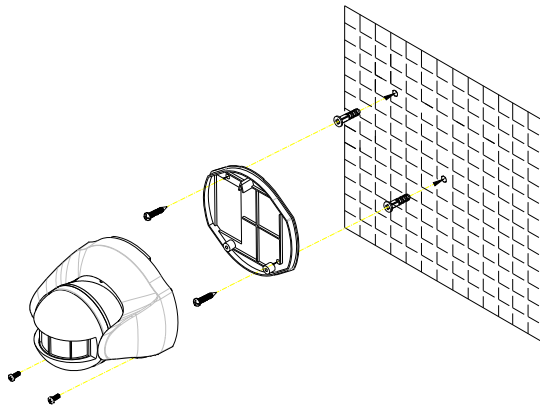

FIGURE 4
4. Hold the rear cover in position and mark the two mounting holes. Drill the holes, insert the plastic wall plugs and screw the rear cover to the wall using the screws supplied. Offer the Detector up to the rear cover using screws as originally supplied. (FIGURE 4)